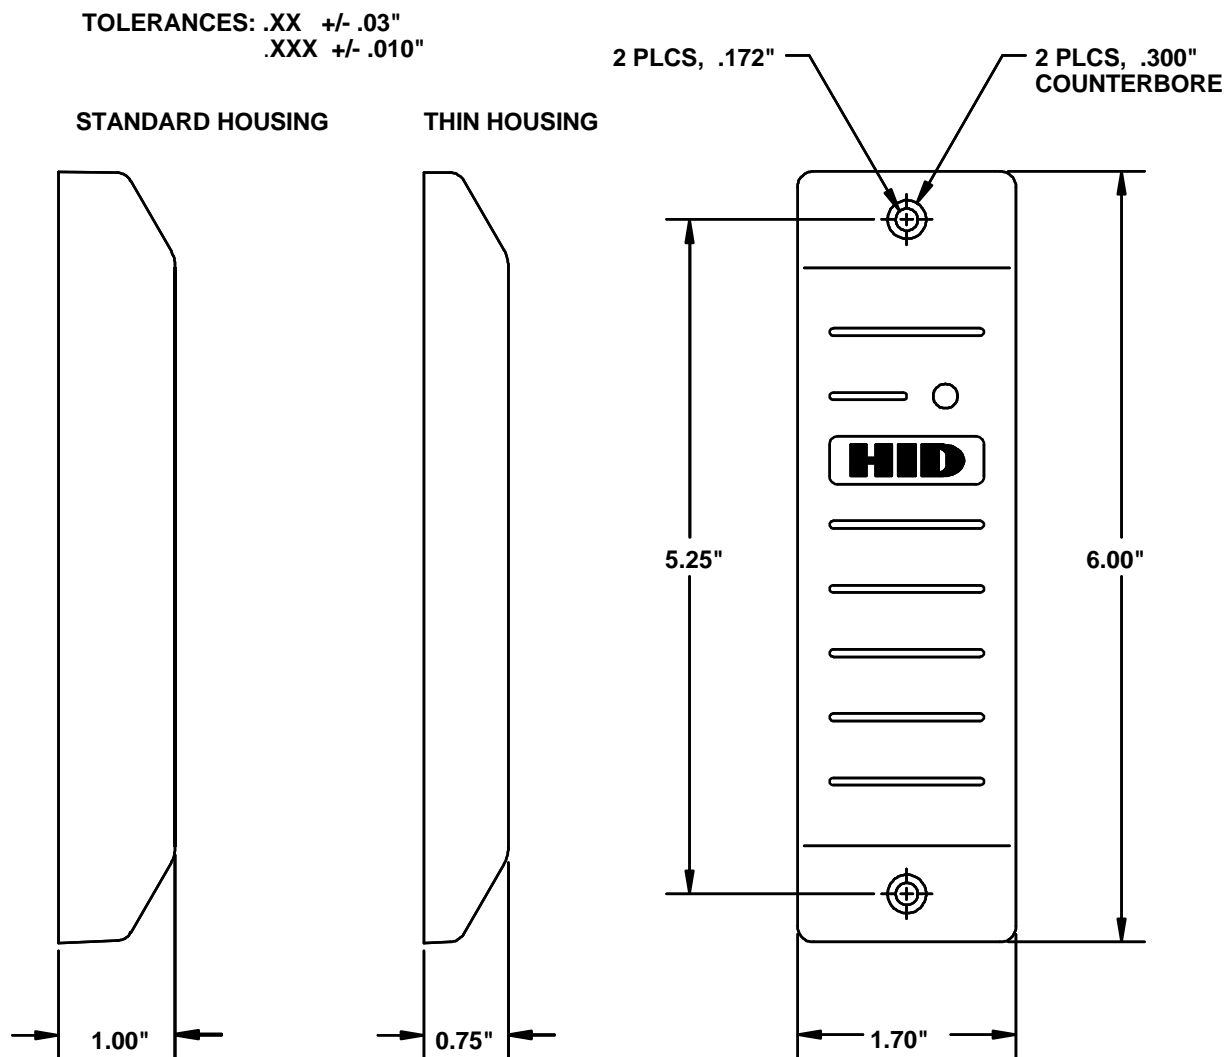

FIGURE 1
1. Determine an appropriate mounting position for the Reader. Drill two 7/64th (.109) Inch holes for mounting the Reader to the surface (see figure 1). Drill a 3/8 to 1.0 Inch hole for the cable. Place a grommet around the edge of the hole. Route the interface cable from the Reader and/or power supply to the Host. Check all electrical codes for proper cable installation.